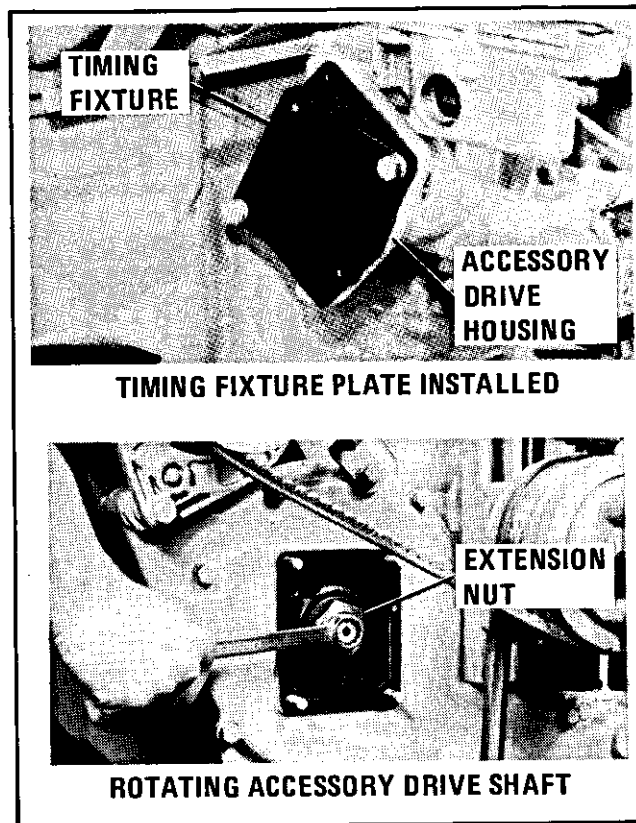

Figure 2-6. Accessory drive shaft timing
b. Assembly of accessory drive housing (32), shaft (21), and bearing (20) group is essentially the reverse of index numbers (9 through 36), except that the drive gear groups (9, 10, 11, 17) should not be assembled until after accessory drive timing (refer to step c below and figure 2-6).
2. Install timing plate on rear face of accessory drive housing as shown in figure 2-6. If timing plate can be installed, timing is correct; proceed to step 4 below. If timing plate cannot be installed, proceed to step 3 and adjust timing.
4. Remove timing plate. Install drive gear group (9, 10, 11, 17). Tighten nut (10) to torque of from 90 to 110 foot pounds.